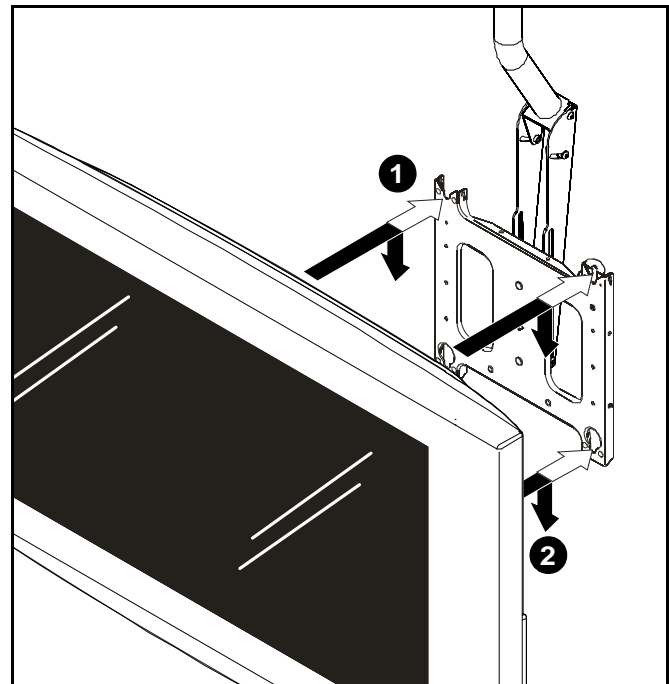
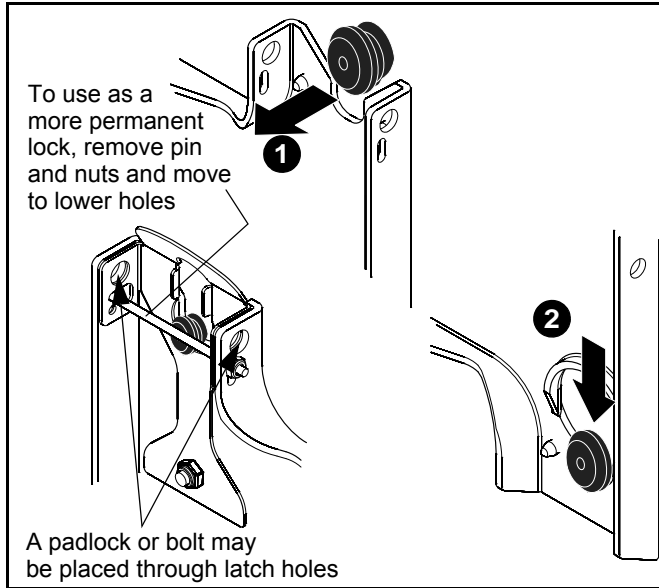

Figure 4
Figure 5
1. While supporting both sides of display, align four mounting buttons on display or interface bracket with four mounting holes in faceplate. (See Figure 4)
2. Lower display into place listening for audible "click" to ensure recessed area of mounting buttons are properly seated in lower area of mounting holes and "click lock" mechanism has engaged. (See Figure 4) and (See Figure 5)
**NOTE:** Holes are provided in the faceplate for use with a padlock or similar locking device, if desired. In addition, the pin and nut may be removed from the upper holes and moved to the lower holes for use as a more permanent locking device. (See Figure 5)